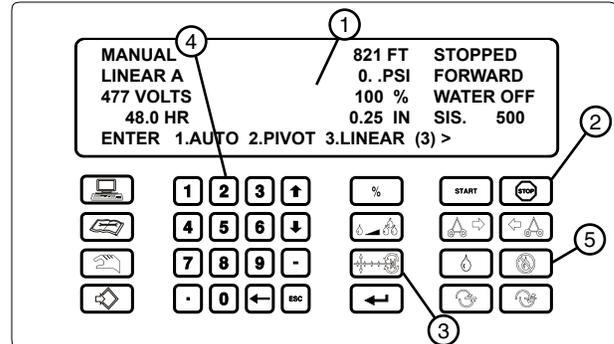

Figure 61-1 1. Control Panel Display 2. Stop Key 3. Pivot/Linear Key 4. Numeric Key 5. Water OFF Key
1. At the control panel, press . See Figure 61-1.
2. Press  and **2** to change the machine to the pivot mode. See Figure 61-1.